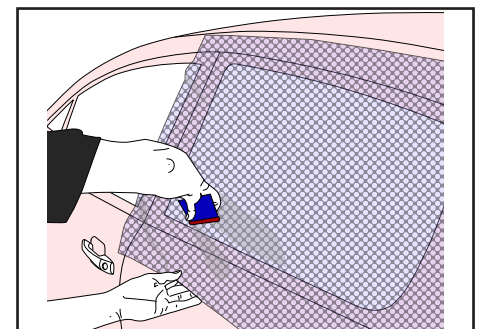

Figure 26
- › Stretch and apply the micro-perforated film over the entire pane up to its edges and in the corners. (FIG. 26)